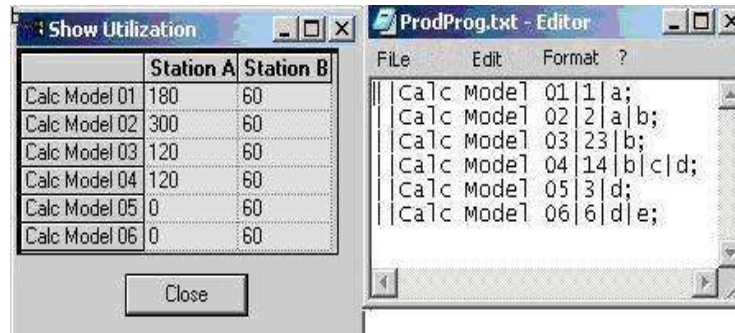

Figure 33: Display of the Utilization Results – External Calculation File
- The corresponding OPT codes are listed in the external calculation file. *Please refer to the Figure 33.*
- Conversely, neither of the two OPT codes are valid for either of the **calculation models five** or **six**; the process time is therefore zero: this means that if these variants of OPT codes are set, neither of these two processes are used for manufacturing. *Please refer to the Figure 33.*